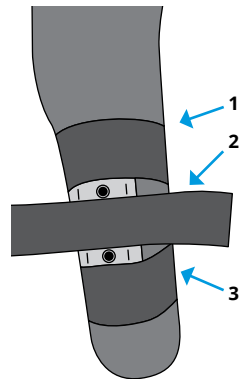

Figure 4
3. Cover with three strips of 2 in. (5 cm) carbon tape wrapped circumferentially in such a manner that the strips cover the grooves and the spirals (Figure 4).